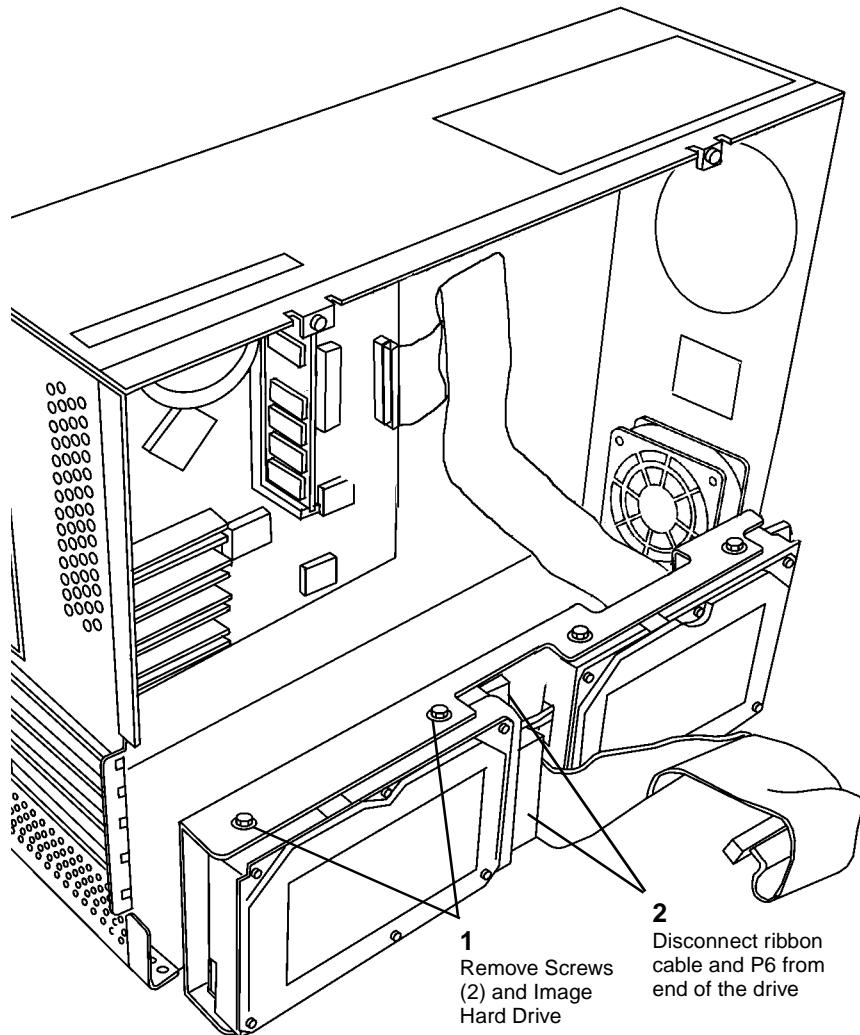

Figure 2 Removing Image Hard Drive
6. Remove Image Hard Drive (Figure 2).